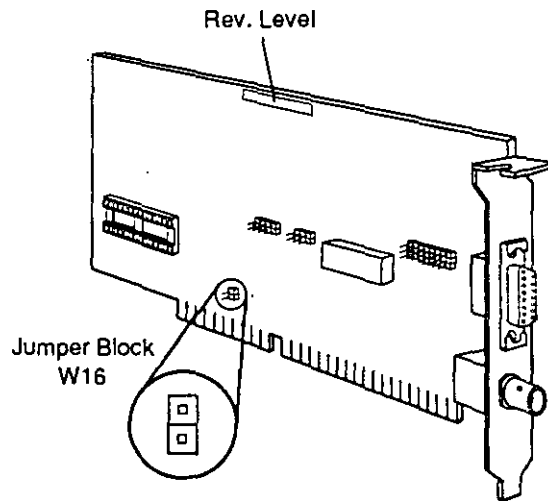

Figure 2.11
1. Locate jumper block W16 on the NE2000 board by referring to Figure 2.11 on the following page.
**Note:** Pre-Rev G NE2000 (Assy. #810-149-001) boards do not use a jumper to maintain timing compatibility. Refer to *Read Me First* (shipped with the board), part #123-000102-001, for instructions. (The Rev level is printed on the top center of the board, as shown in Figure 2.11 below.)